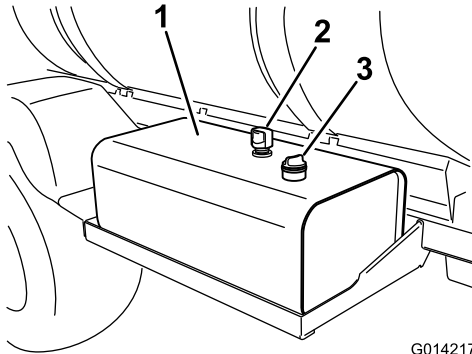

Figure 86
2. Clean the area around the hydraulic-fluid-tank dipstick cap and remove it (Figure 86).